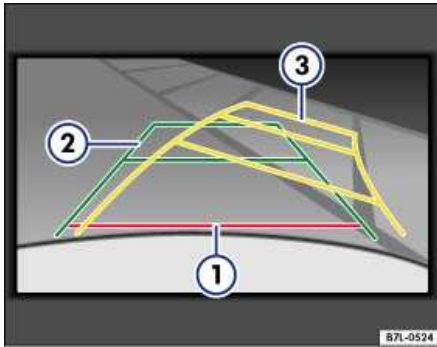
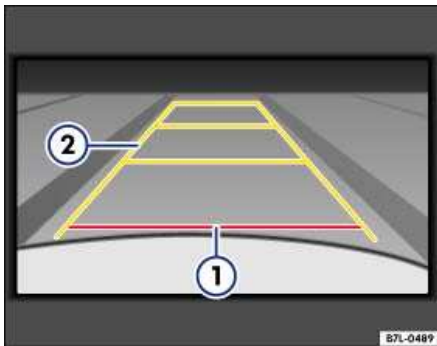

Fig. 15 Representation of the parking area behind the vehicle with static (1), (2) and dynamic (3) orientation lines
Fig. 16 Aligning the vehicle with the help of orientation lines.
- With the vehicle stationary, select the suitable steering wheel angle for the parking space with the help of the yellow orientation lines ⇒ Fig. 15 (3).
- Back up and, while driving, adjust the steering wheel angle to the parking space with the help of the yellow orientation lines (3) ⇒ .
- Align your vehicle with the yellow orientation lines ⇒ Fig. 16 (2).
Color	Meaning of the orientation lines ⇒ Fig. 15
Yellow (3) or ⇒ Fig. 16 (2)	Dynamic display: Guided by steering wheel angle, the yellow orientation lines shift in the direction in which the vehicle is backing up. They match the steering wheel angle. The rear yellow orientation line is about 9 ³ / ₄ ft (3 m) away on the ground, measured from the rear bumper on a horizontal surface.